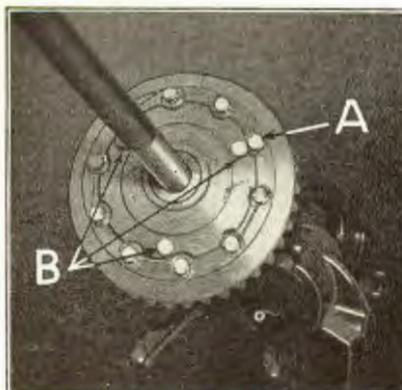
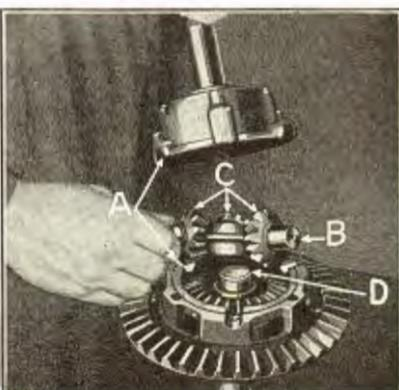

Fig. 325
Fig. 326
570 Break wire and run out the 10 differential drive gear cap screws (See "A" Fig. 325). Break wire and run off nuts from ends of the three differential case bolts "B". The right and left differential cases can now be separated (See "A" Fig. 326) and the differential spider "B", pinion gears "C" and washer "D" lifted out. Differential cases right and left can then be withdrawn from axle shafts.
- draw them down tightly into gear. The bolts are then wired together, two at a time (See "A" Fig. 325).
- 603 Place axle shaft washer on end of axle shaft (See "D" Fig. 326).
- 605 Position differential case—right on differential case—left as shown at "A" Fig. 326, making sure that pinions mesh with differential gear in case.